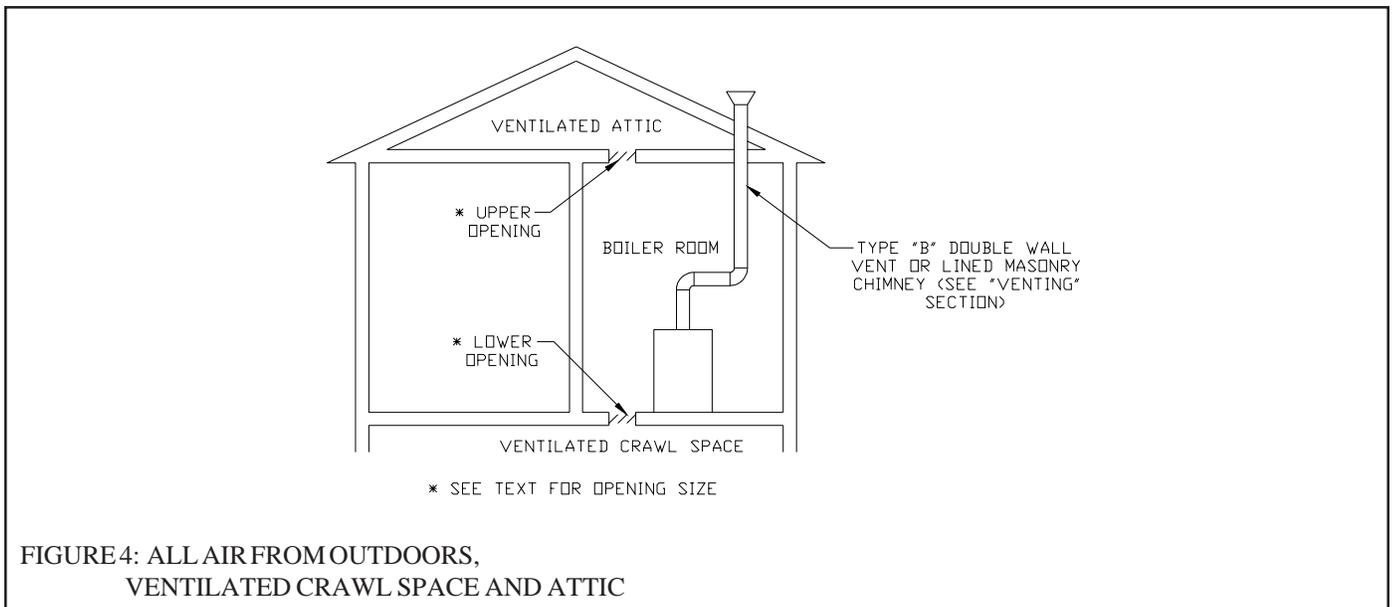

FIGURE 4: ALL AIR FROM OUTDOORS,
- Vertical ducts or openings directly outdoors (Figure 4, Figure 5, and Figure 6) - Each opening must have a free cross sectional area of 1 square inch per 4000 BTU/hr of the total input of all gas-fired appliances in the boiler room but not less than 100 square inches. Minimum opening size is 3 inches.